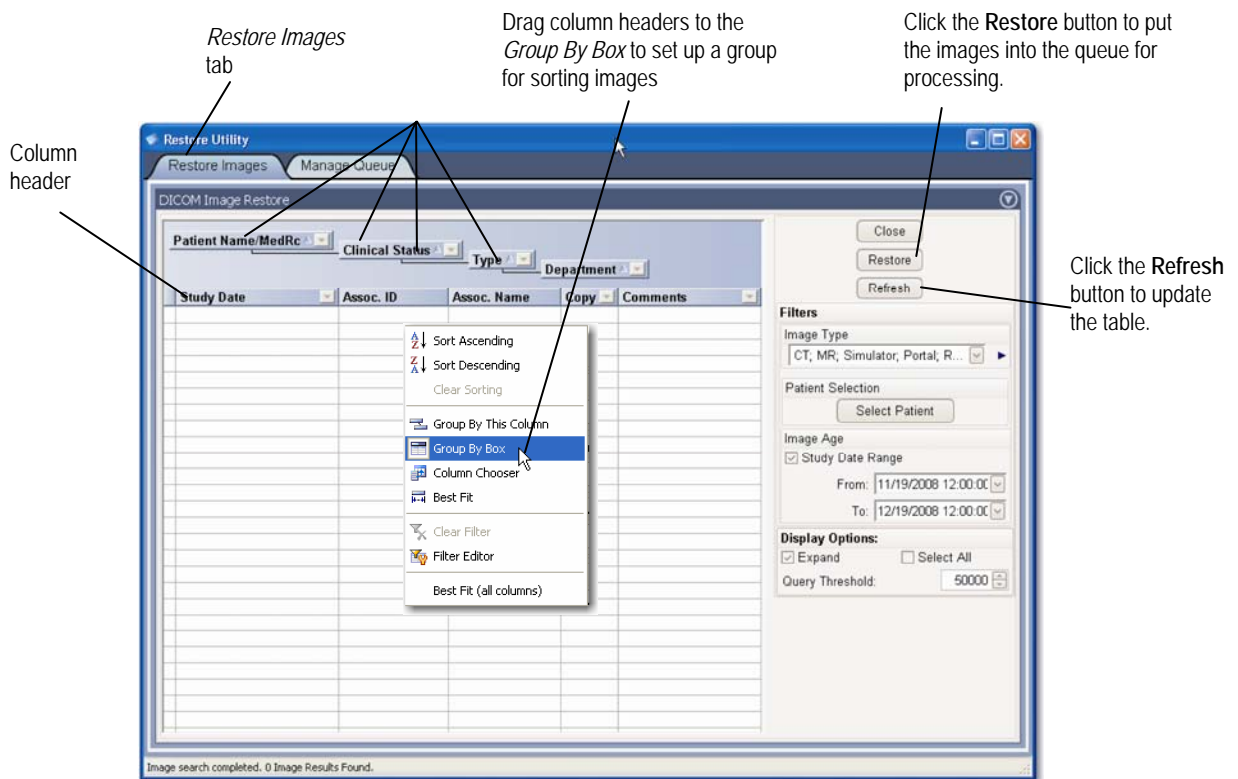

Figure 68: Restore Utility Window (Restore Images Tab)
2. In the Restore Utility window, click the **Restore Images** tab, if it is not already selected. MOSAIQ opens the Restore Utility window, as shown in Figure 68.